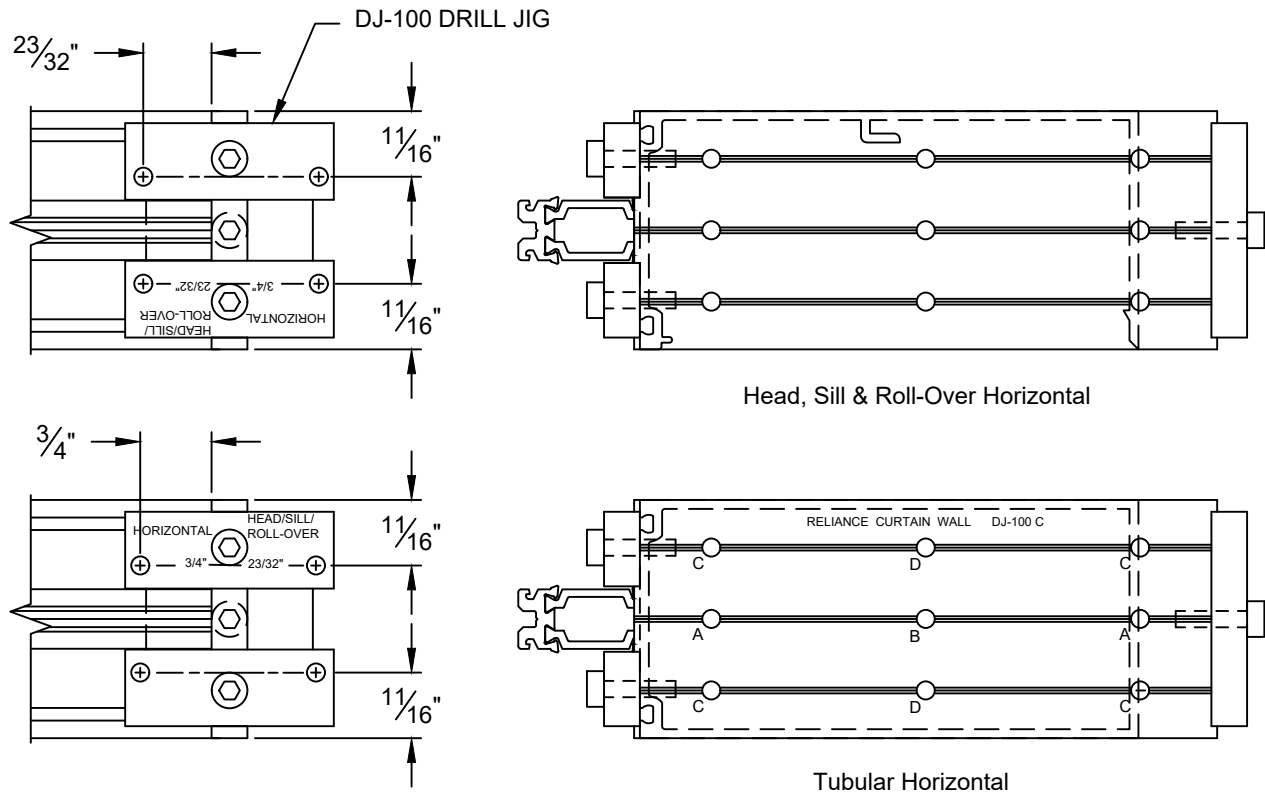

FIGURE 4
- 1.5 Fabricate ends of horizontal members for shear block screws using DJ-100 drill jig. **SEE FIGURE 4.**